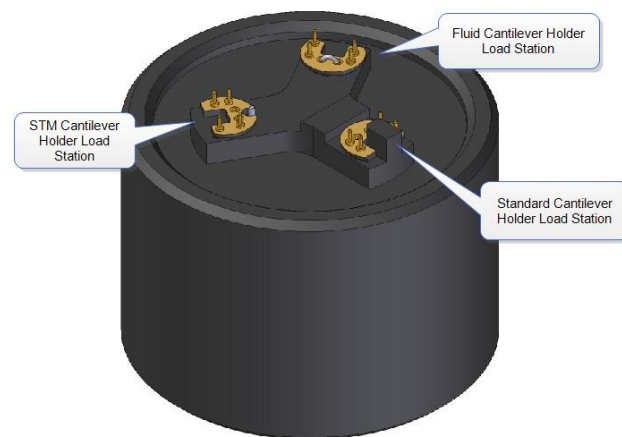
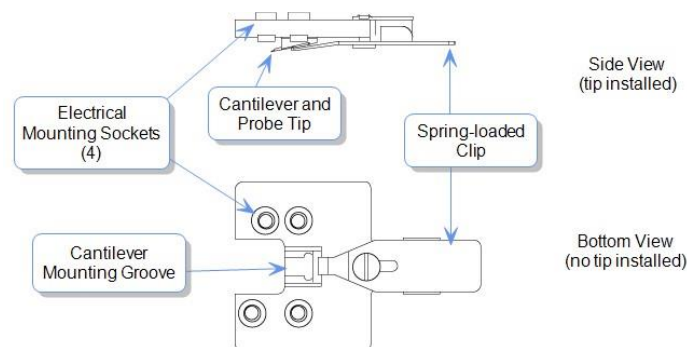

Figure 1. Probe holder
Figure 2. Tip
- 6) Loading the probe. The probe holder, Figure 1, should be in the black cylindrical case (the probe holder stand) on the desk. Mate the probe holder sockets (Figure 2) to the pins on